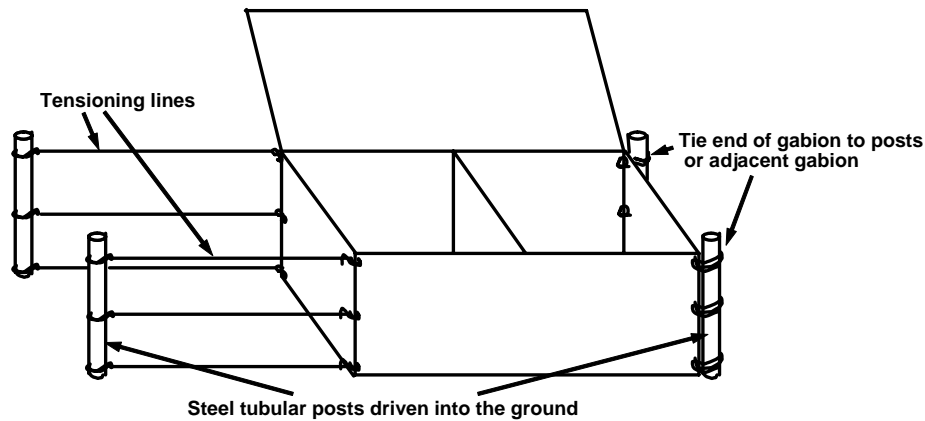

Figure 8: Tensioned gabion ready for filling.
- 4.3:** Before filling, gabions should be placed on the prepared surface and tensioned to ensure that the shape is good and that exposed surfaces are smooth and taut. A suitable tensioning arrangement is shown in Figure 8.